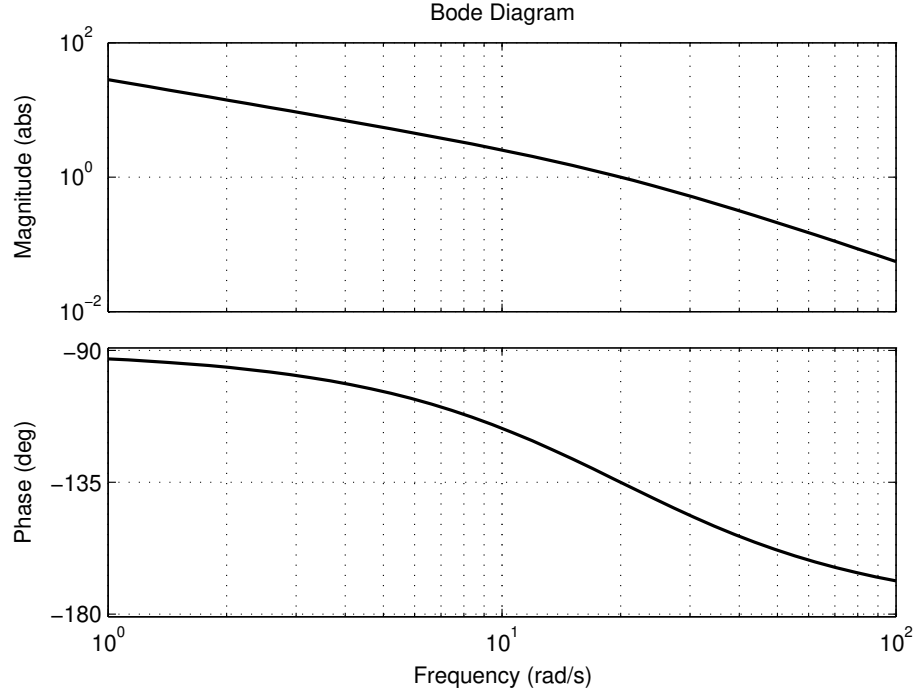

Figure 5 The open-loop Bode diagram in Problem 7
7. You have designed a controller $G_R(s)$ for some process $G_P(s)$. The Bode plot of the open-loop system $G_0(s) = G_P(s)G_R(s)$ is shown in Figure 5. You have simulated the closed-loop system and are happy with the resulting speed and robustness.